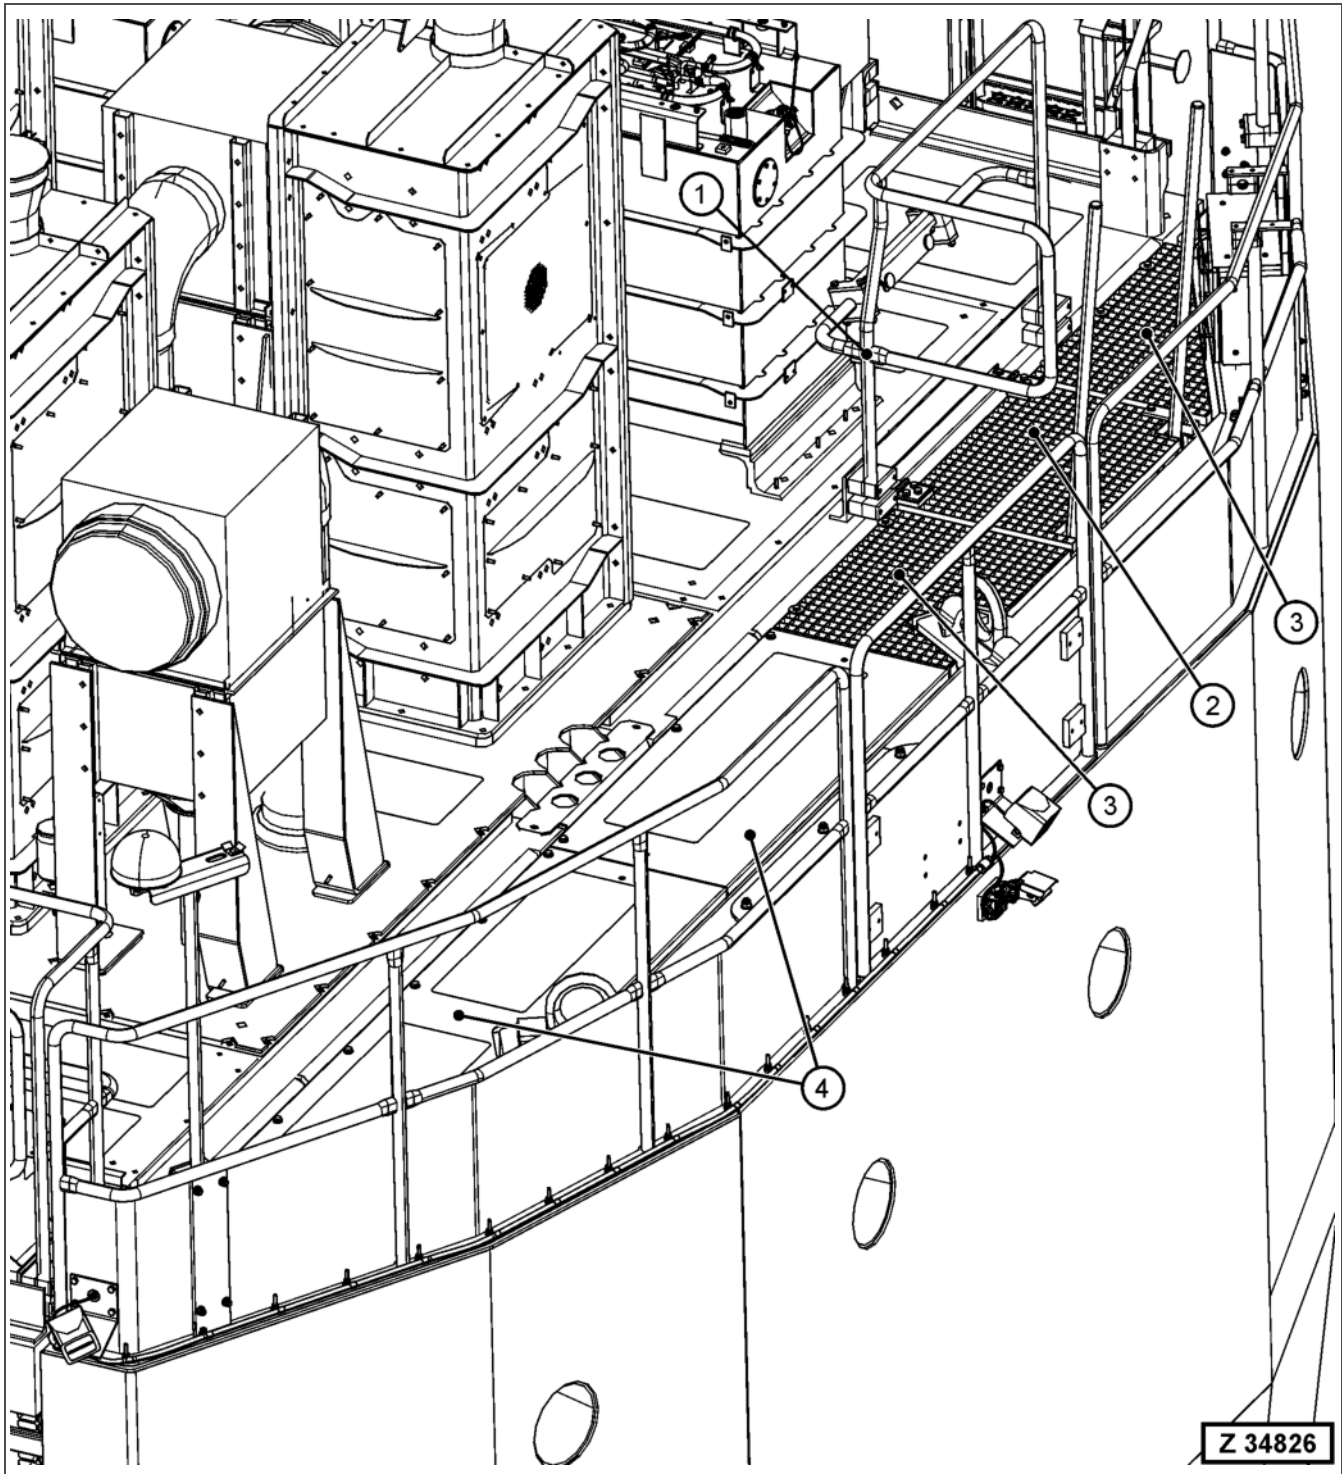

Fig. 3-514
8. Assemble the grids (Fig. 3-514, Pos. 3) and the cover plates (Fig. 3-514, Pos. 4).
9. Install the emergency escape hatch (Fig. 3-514, Pos. 2).
Assemble the hand rail (Fig. 3-514, Pos. 1) at the machine house.